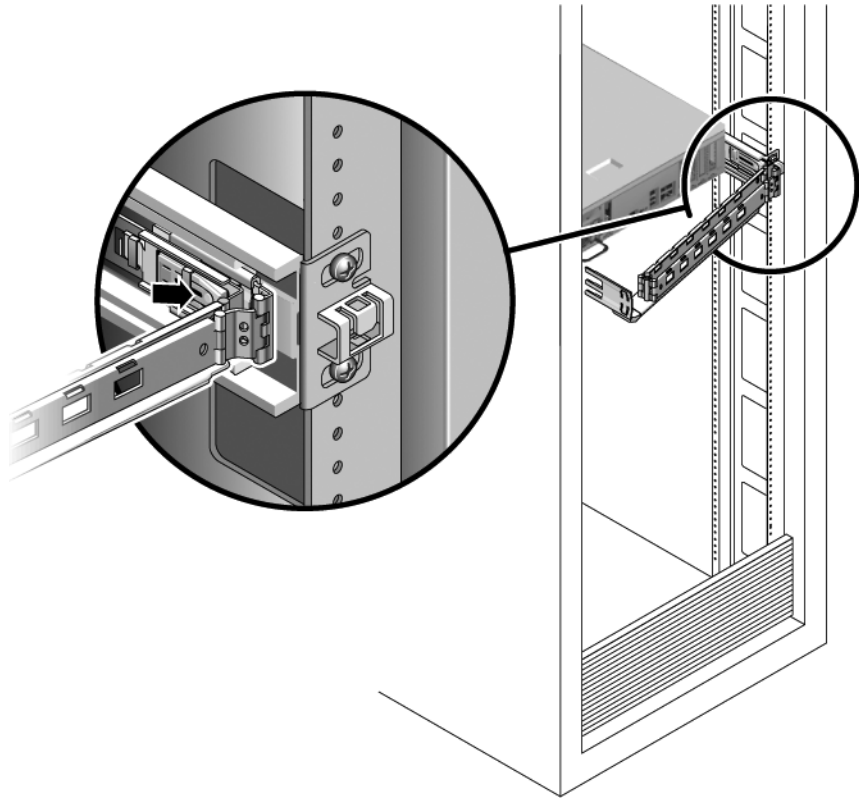

FIGURE 5-2 Locating the Metal Lever
3. Press the metal lever (FIGURE 5-2) that is located on the inner side of the rail to disconnect the CMA from the rail assembly (on the right side from the back of the rack).